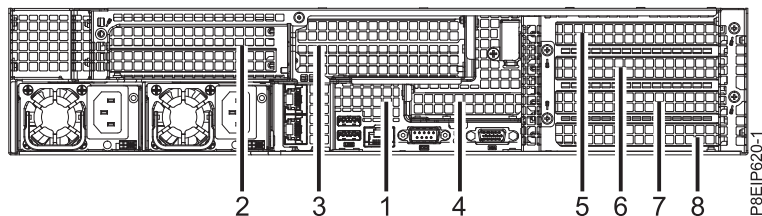

Figure 48. 8001-22C PCIe adapter positions
2. An adapter can share a PCIe riser with other adapters. See Figure 48.